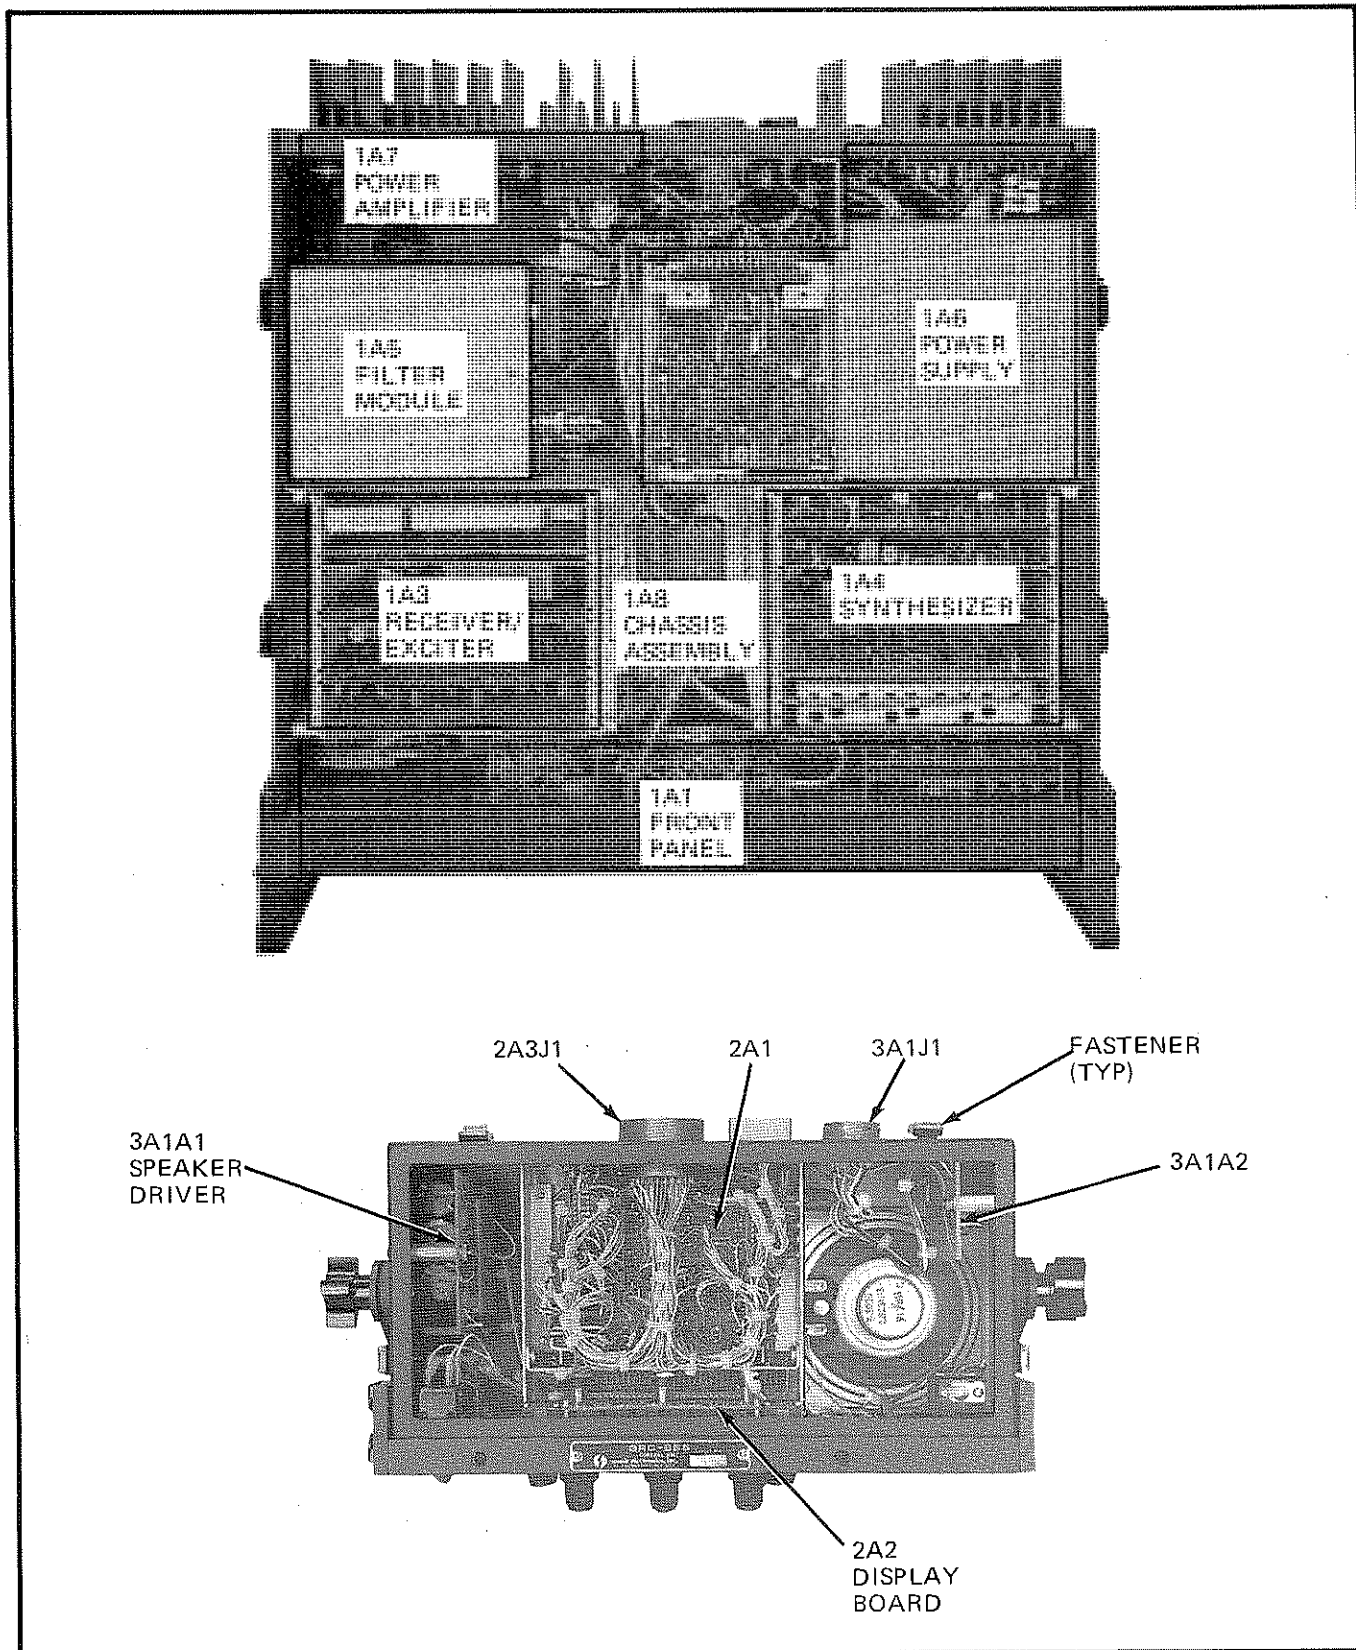

Figure 1.1 GSB-900R and Remote Control Major Assembly Locations
The GSB-900R is composed of six major sub-assemblies, (1) front panel 1A1, (2) receiver/exciter 1A3, (3) synthesizer 1A4, (4) filter module 1A5, (5) power supply 1A6, (6) power amplifier 1A7. See Figure 1.1 for major assembly location.